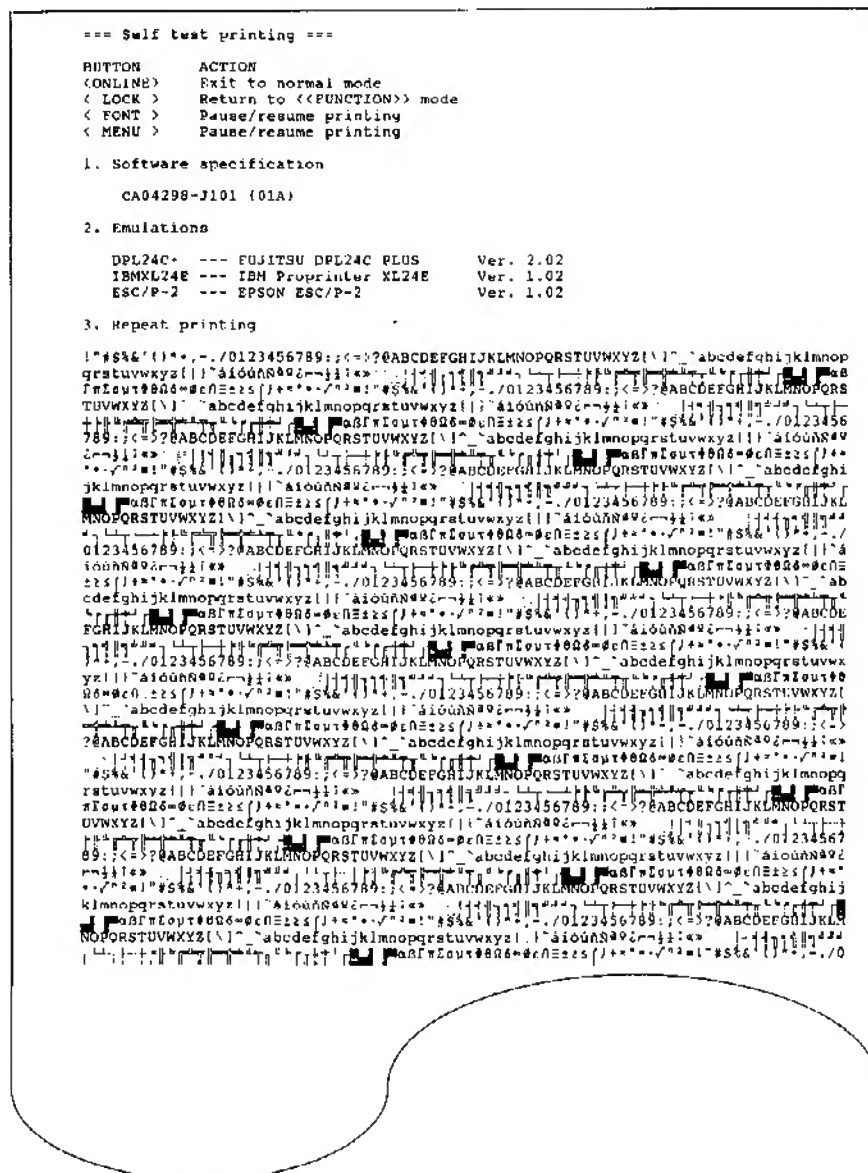

Figure 5-3 Test printing sample
4. Check that the printed page resembles the sample in Figure 5-3.